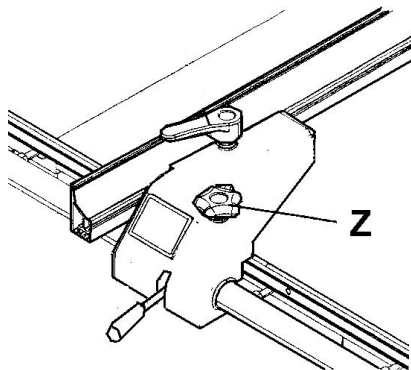

**Fig 4**
Adjust the rack (X, Fig 4) so that the micro adjust pinion (Y) engages nicely (with little but not too much gear space).